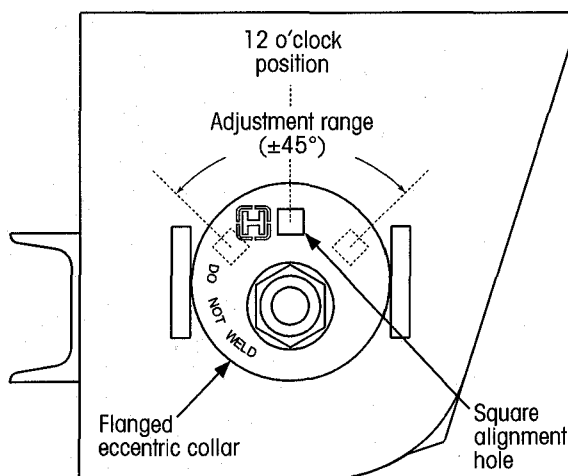

Figure 27: Eccentric collar orientation details
3. On the front axle pivot connection, inspect the orientation of the square alignment hole in the flanged eccentric collar (Figure 27). The square alignment hole must be at the 12 o'clock position, which is the middle of the alignment adjustment range.